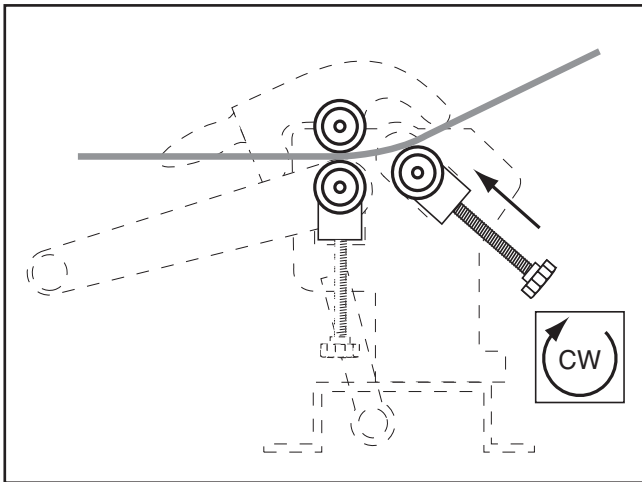

Figure 22. Setting the radius.
- Turn the radius adjust knobs to lift the rear roller until the desired radius bend is reached (**Figure 22**). Make sure to turn the knobs equal amounts so the rear roller is always parallel with the other rollers. Failure to do so will create a larger radius on one end than the other, resulting in a cone shape.